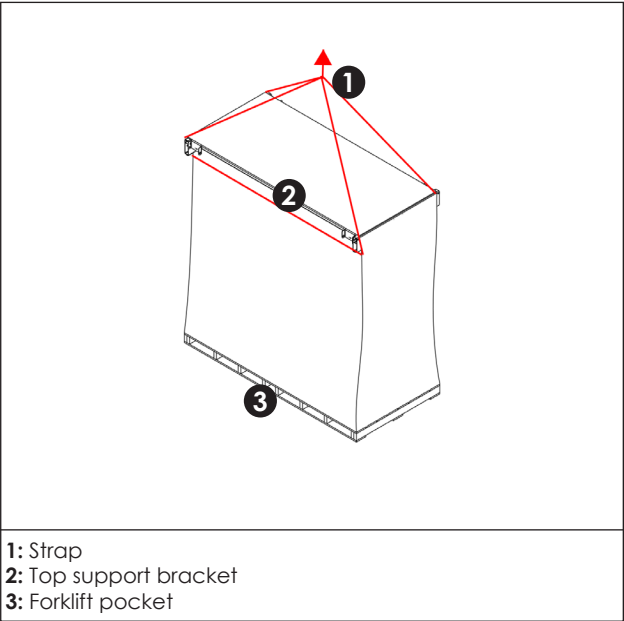

Figure 1: Lift Method
1. Use either a forklift or a crane to lift the crates. For single pallets or factory-stitched pallets, lift from either the forklift pockets with a forklift or from the top support brackets with a crane/straps. Take care when forklifting stitched pallets from the bottom pallet, as this is unstable and could result in serious injury to the operator and/or damage the product. Never use the lift eye locations in the display sections to lift the entire crate. Refer to **Figure 1**.